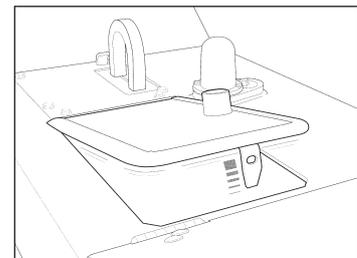

Fig. OZ8 Opening the storage compartment
- ✓ The storage compartment is now unlocked and folds up (Fig. OZ8).